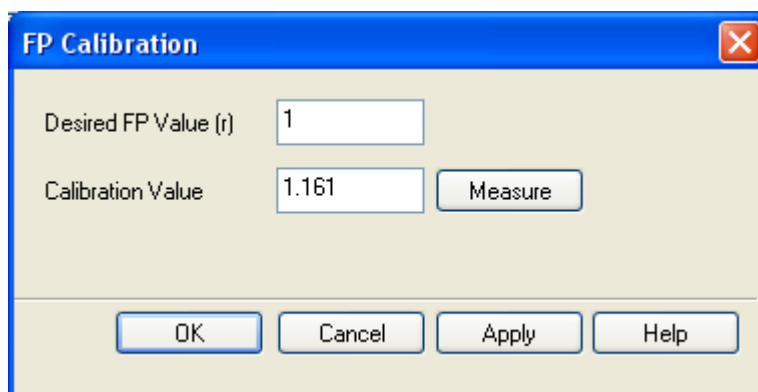

Figure 4.2: the FP Calibration dialog box
3. Click the **Calibrate** button in the **Calibration** panel. The **FP Calibration** dialog box will appear (Figure 4.2).